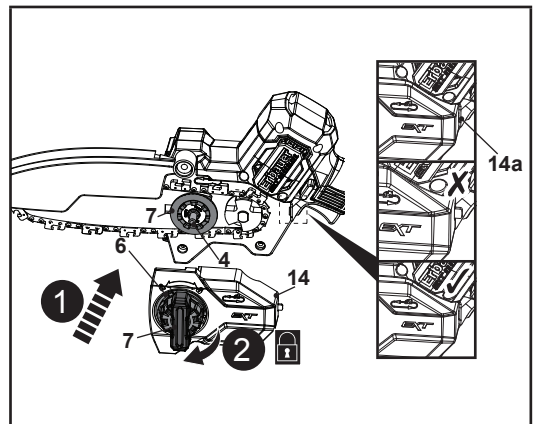

Fig. 6
- Align and place the garden saw cover (14) over the mounting bolt (4), then slightly tighten the locking wheel (7) clockwise (Fig. 6, steps 1, 2). Ensure that the spigot (14a) engages correctly in the slot. Do not tighten the locking wheel (7) completely as saw chain tensioning is required first.